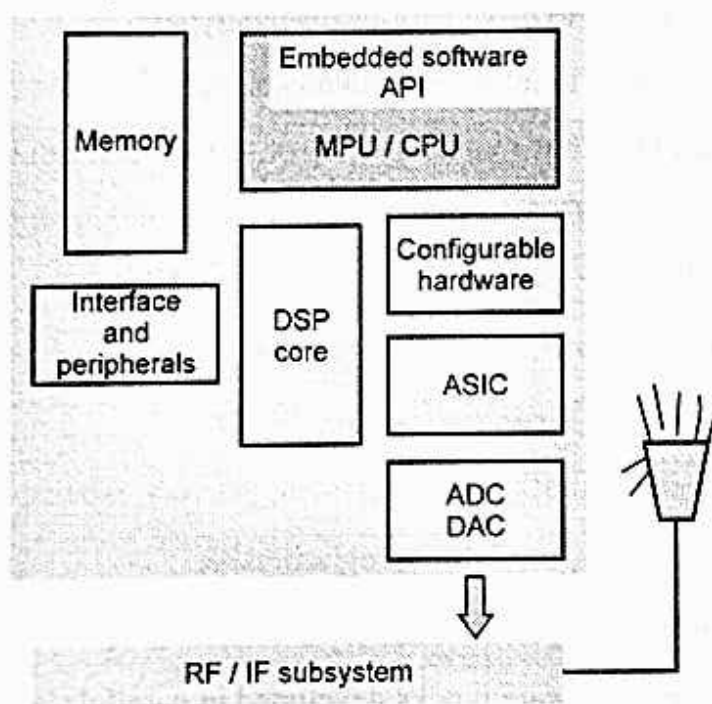

Fig. 1.5.2 : System on chip
- Fig. 1.5.2 shows block diagram with components of SoC.